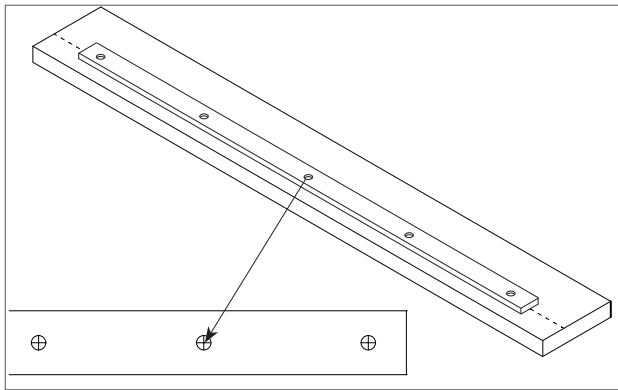

Figure 4
5. Lay the track on top of the header, centering it with the line drawn on the header. Ensure the track is 2" from either end of the header. Using a pencil, mark the hole positions in the track onto the header (Figure 4). Set the track aside.